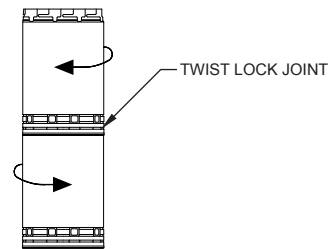

FIG. 3a
6. Install Temp Guard chimney sections starting at the TGCSP. Secure the sections by pushing together and twisting until stop-locked (See FIG. 3a). Additional chimney sections may be added to maximum height of 60 feet. 14", 16" and 18" are installed flange to flange, as illustrated on page 6. At each additional ceiling, a firestop (TGFSFA) is required. Insert the TGFSFA into the joist area prepared in step 5. Continue this process for each floor level until the area above the attic.